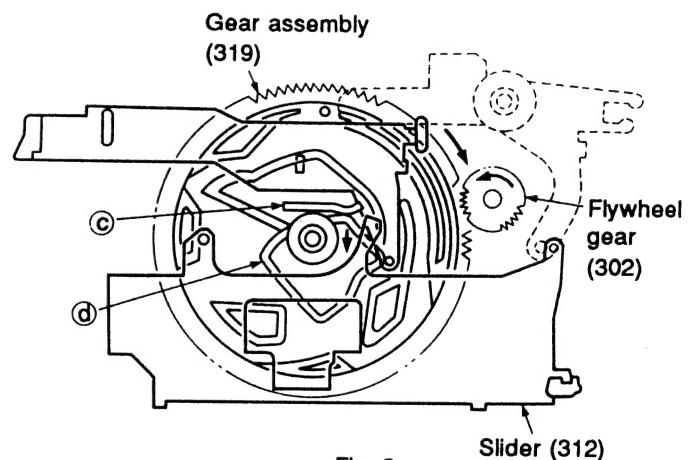

Fig. 2
3. Since cam (d) is pushed down by projection (c) of head slider (301), the gear assembly engages with the forward flywheel gear, and starts turning. (Fig. 2)